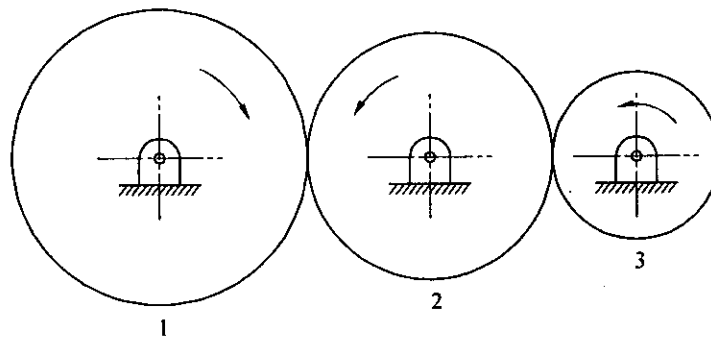

Fig. 7.2
**Simple gear train :** A simple gear train is one in which each shaft carries only one gear as shown in fig. 7.2. If gear 1 is the driver and gear 3 the driven, then motion is transmitted from 1 to 3 through the intermediate gear 2, known as *idler*. An idler does not affect the train value of the train, it serves only to fill up space and reverse the direction.